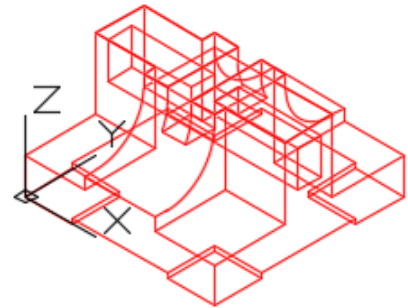

Figure Step 1A
Step 1 On layer: Model, draw a wireframe model of the object shown in the multiview drawing. Set the current view to SE Isometric. (Figure Step 1A, 1B, 1C, and 1D)